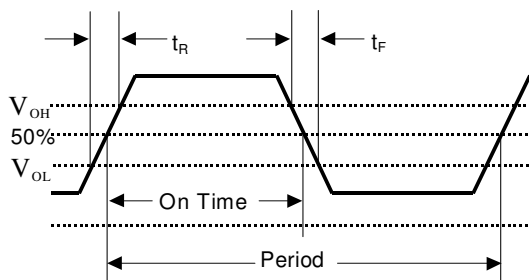
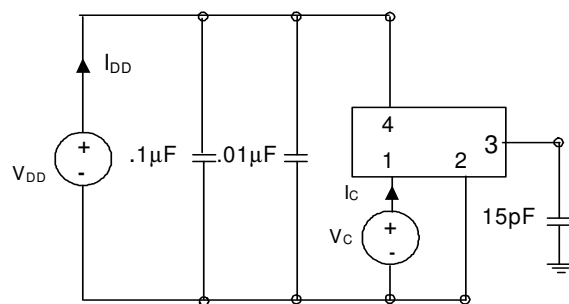

Figure 3. Output Waveform
Figure 4. Typical Output Test Conditions (25 \pm 5°C)
2. Figure 3 defines these parameters. Figure 4 illustrates the operating conditions under which these parameters are tested and specified. For $f_o > 90$ MHz, rise and fall time is measured 20 to 80%.